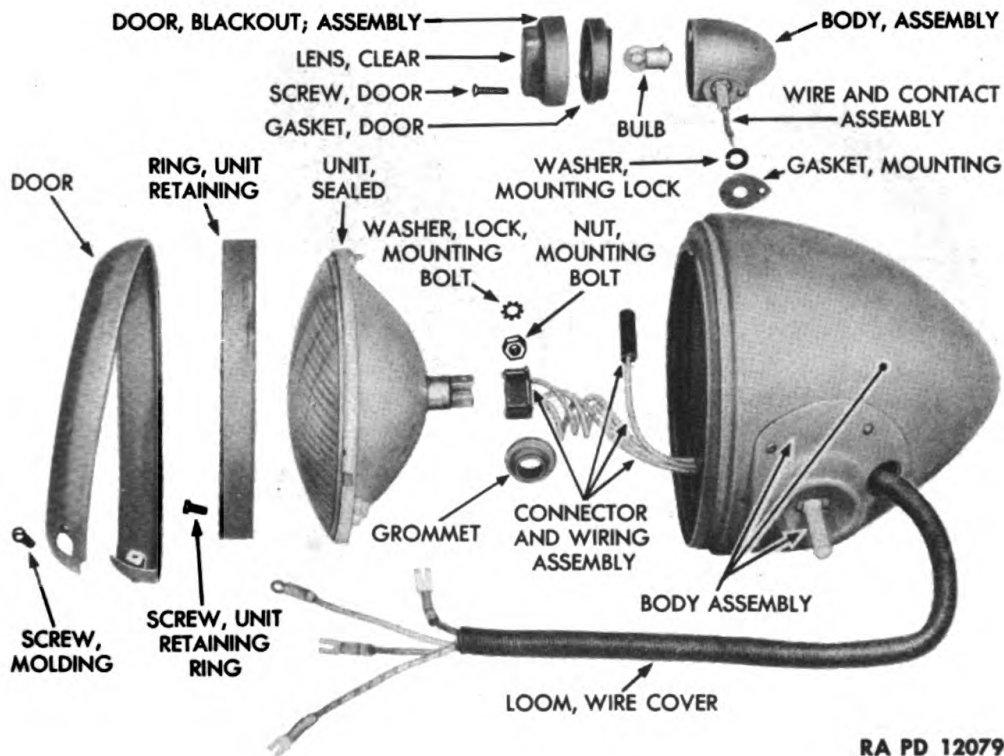

Figure 217—Head Lamp and Blackout Marker Lamp Assembly
(b) Remove 3 screws that hold unit retaining ring to body and lift off unit retaining ring (fig. 217).
(c) Pull sealed unit off connector and wiring assembly and remove sealed unit. Then pry grommet out of body and pull connector and wiring assembly off blackout lamp and out of body. Pull wire cover loom off connector and wiring assembly (fig. 217).
- (a) Remove the mounting bolt nut and mounting bolt lock washer from inside head lamp body assembly (fig. 217).
- (b) Lift the blackout marker lamp assembly, mounting lock washer, and mounting gasket off the head lamp body assembly (fig. 217).
(b) Place door gasket in blackout door assembly and put blackout door assembly on body assembly. Secure blackout door assembly to body assembly with door screw (fig. 217).